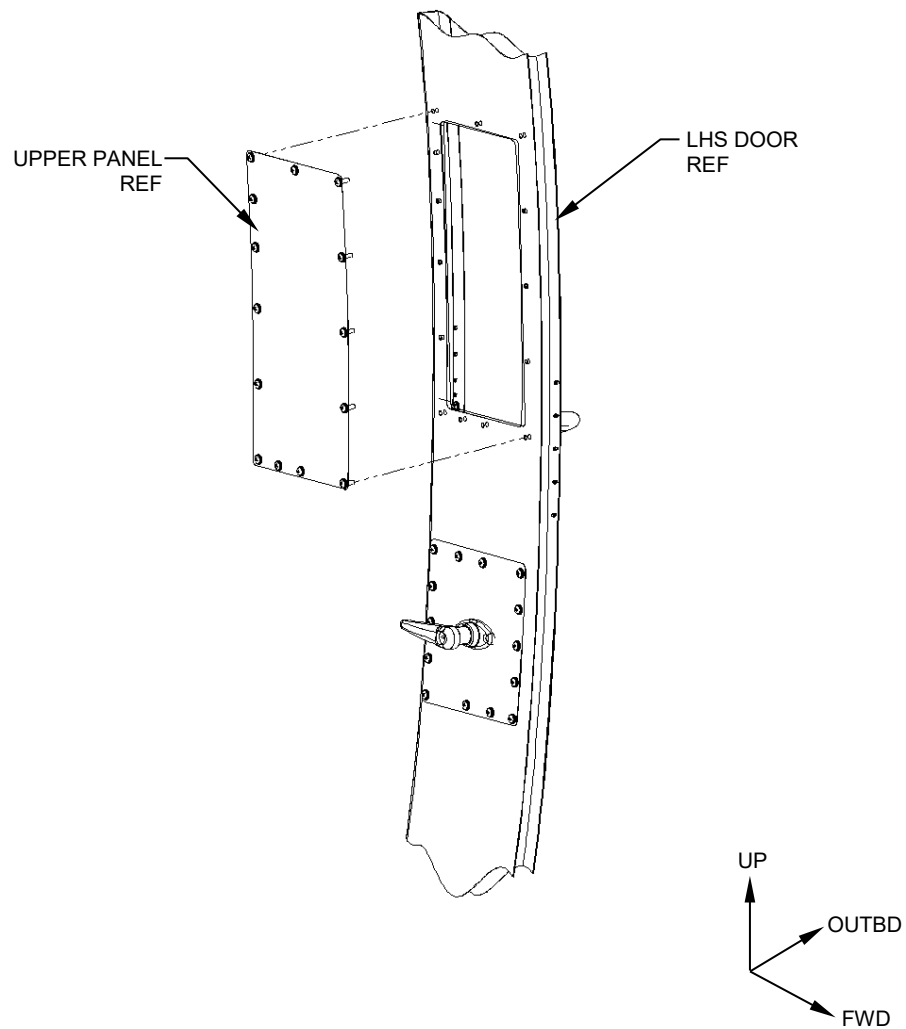

Figure 19
1. Gain access to the inside of the passenger compartment door by removing the upper panel. Reference Figure 19.